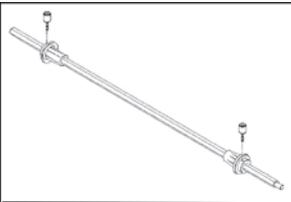

Figure 8
- 2. Take both lock core adapters off from the shaft. (Fig. 8)